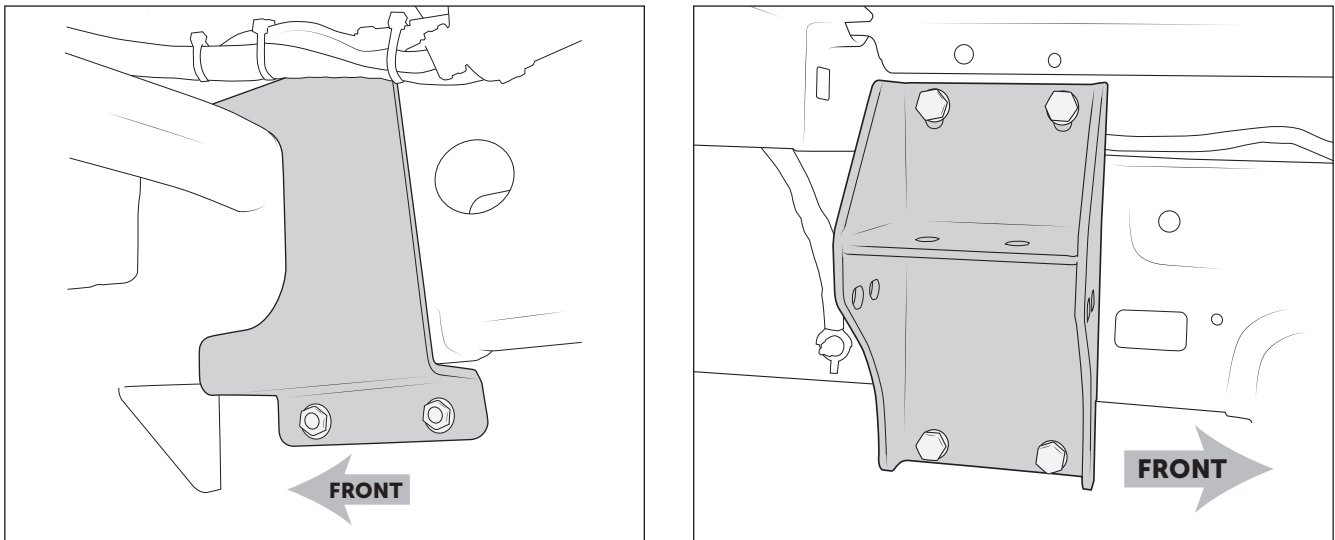

Figure 33 Left: Inboard Bracket Right: Outboard Bracket
3. Install the two piece frame bracket around the frame rail. Use four supplied M10x25 bolts, washers, and flange nuts to secure. Leave loose at this time (fig. 33: 2019+ shown).